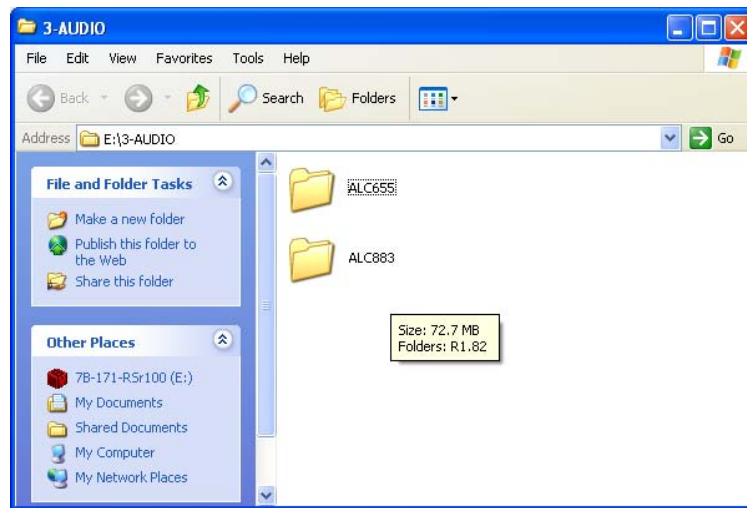

Figure 8-19: Select the Audio CODEC
Step 2: A new window opens (**Figure 8-19**).